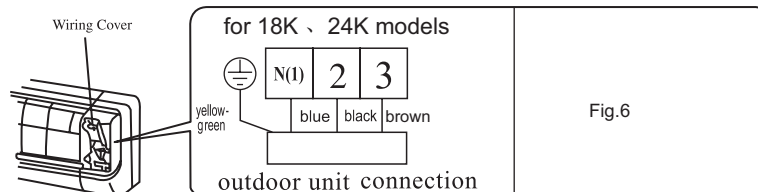

Fig. 6
2. Remove the wiring cover Fig. 6.